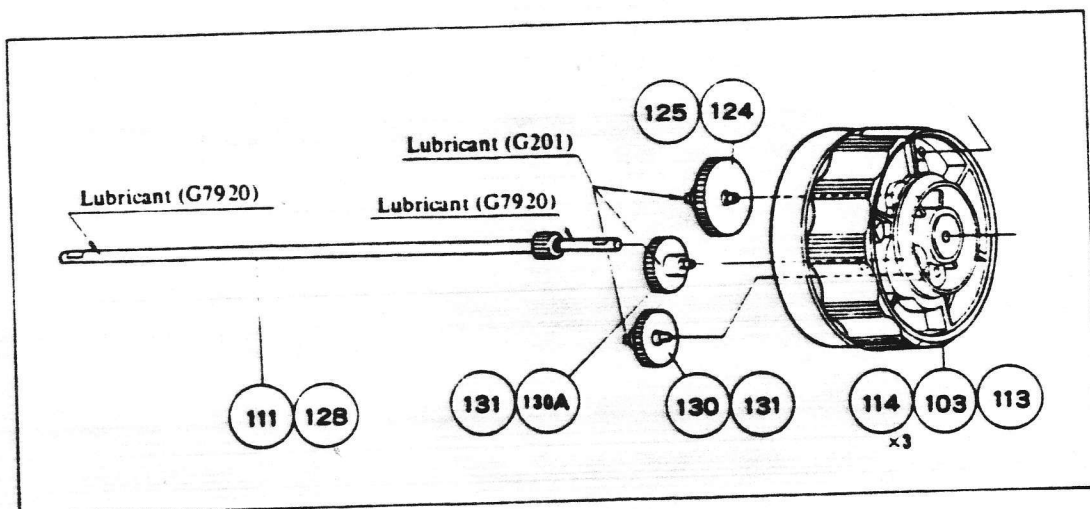

Fig. 25
- 1) Releasing HS screw (142A), remove the right (101) and left (102) fine focus knobs. In this case, take off plate spring (118) and washer (120), as well.
- 2) Rip off name plate (117) (cemented by No. 616) from the right coarse focus knob (103). After releasing set screws (11A) x3, take off (105) from gear case (107).
- 3) By removing (103) (together with bush (113) and bearing (114)), take off fine focus shaft (111), spur gears (128), (124) and (125), gear shaft (131), spur gear (130A) and gear shaft (131).
(LABOPHOT: Spur gears (111) and (128), (124) and (129)) (Fig. 25)
- 4) Turn the left coarse focus knob (104) and coarse focus gear case (107), counterclockwise, to remove (104) (combined with bush (115)) from coarse focus shaft (110). In this case, (107) may separate from (110).